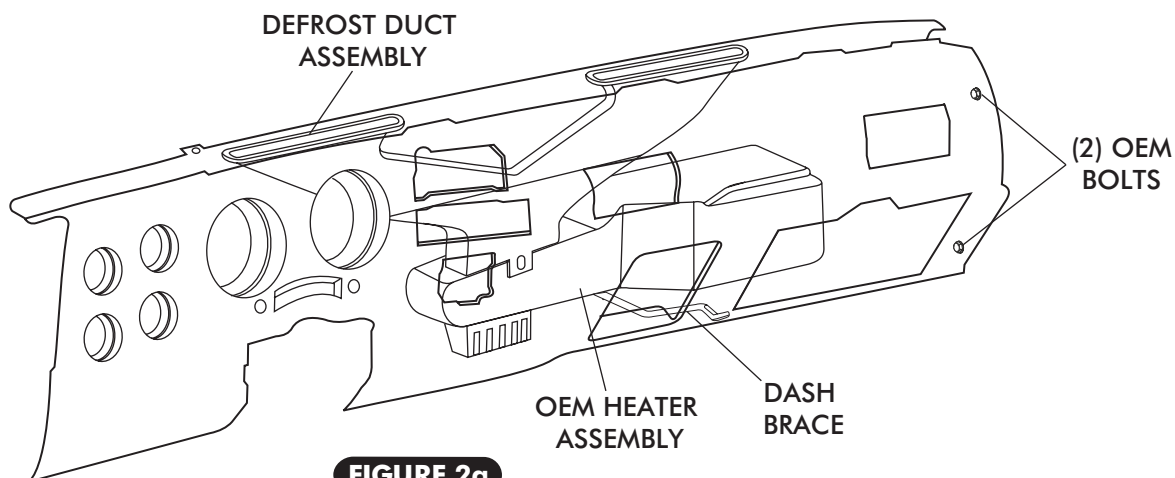

FIGURE 2a
- ☐ OEM HEATER ASSEMBLY (DISCARD) (SEE FIGURE 2a).
- ☐ DEFROST DUCT ASSEMBLY (DISCARD) (SEE FIGURE 2a).
- ☐ **NOTE: FOR EASE OF INSTALLING EVAPORATOR UNDER DASH, IT MAYBE HELPFUL TO REMOVE THE (2) OEM BOLTS UNDER THE DASH ON THE PASSENGER SIDE DOOR PILLAR AND PULL BACK DASH.**
- ☐ **NOTE: SOME MODELS MAY BE EQUIPPED WITH DASH BRACE (REMOVE AND RETAIN) (SEE FIGURE 2a).**